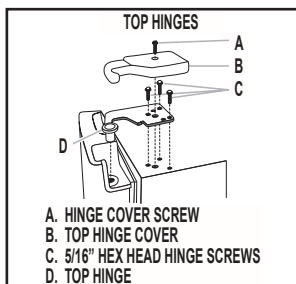

FIGURE 1
4. For the right-hand side door, remove the parts for the top hinge as shown in *Figure 1*. Lift refrigerator door from the bottom hinge pin, lay on protected surface. Do not remove any shims from the bottom hinge pin.
6. Assemble the parts for the top hinge as shown in *Figure 1*. Do not tighten the screws completely.